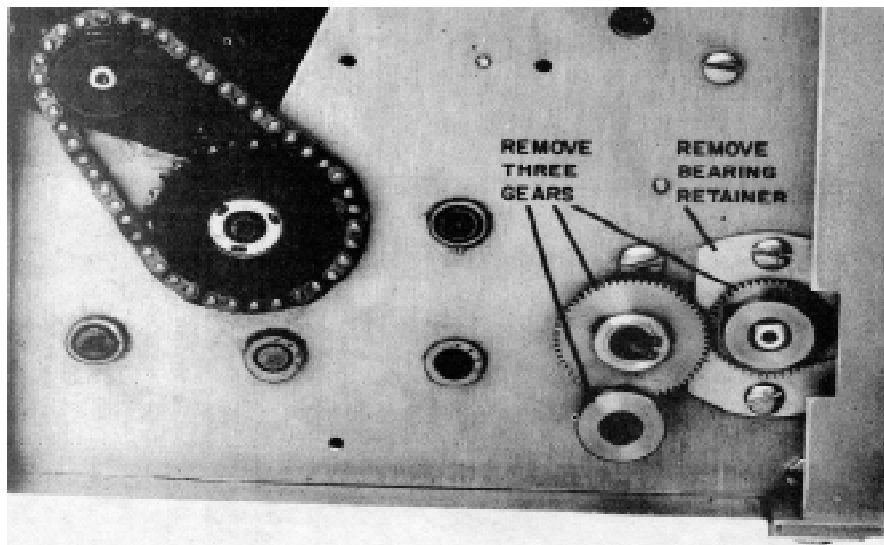

Figure 5-5. Bearing Retainer and Gears
- c. On the top side of the recorder, remove the three gears adjacent to the left side bearing retainer. Note the location of the shims on the gear assemblies, so that the shims can be reassembled correctly. See Figure 5-5.